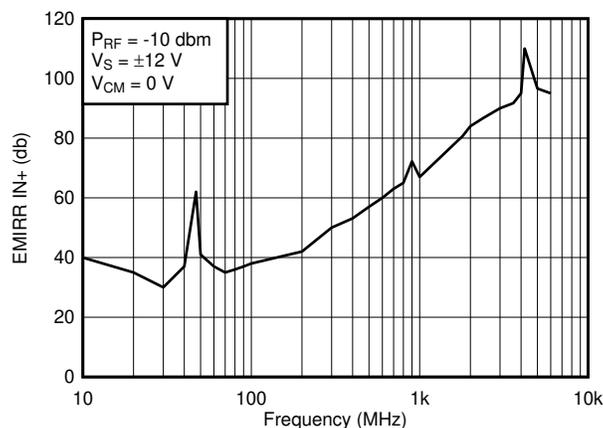

图 7-6. OPA2140 EMIRR
- EMIRR is easier to measure on noninverting pins than on other pins because the noninverting input terminal can be isolated on a PCB. This isolation allows the RF signal to be applied directly to the noninverting input terminal with no complex interactions from other components or connecting PCB traces. 图 7-6